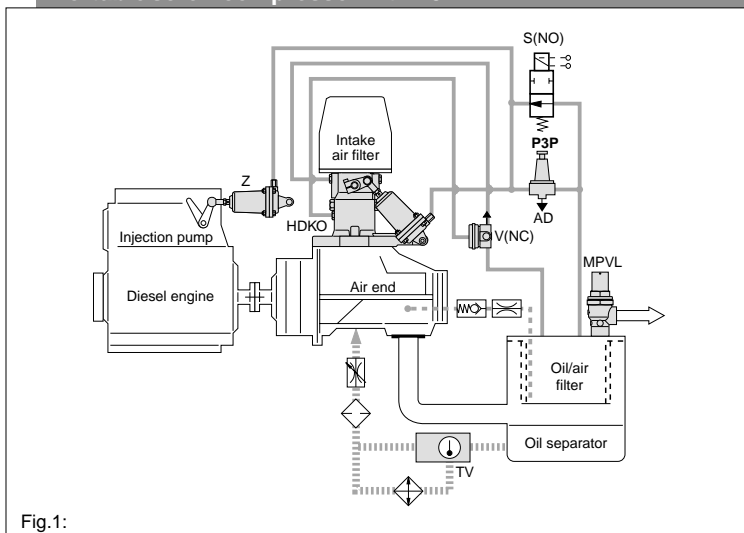

Fig.1:
Some executions of proportional controllers are equipped with an outlet nozzle (not pictured). The outlet nozzle (AD) has to be installed externally as shown in Fig. 1, if a proportional controller without built-in outlet nozzle is used.